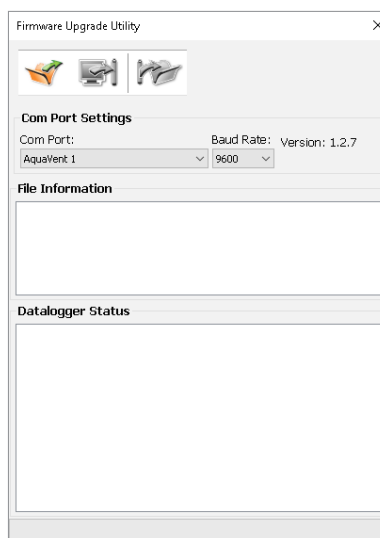

Figure 11-1 Firmware Upgrade Utility Window
- 5) If a communication error occurs and is indicated in the AquaVent Information Window (Figure 11-1) either before the 'Verified Program Checksum' message or after the 'Program Information Section', then restart the upgrade process.